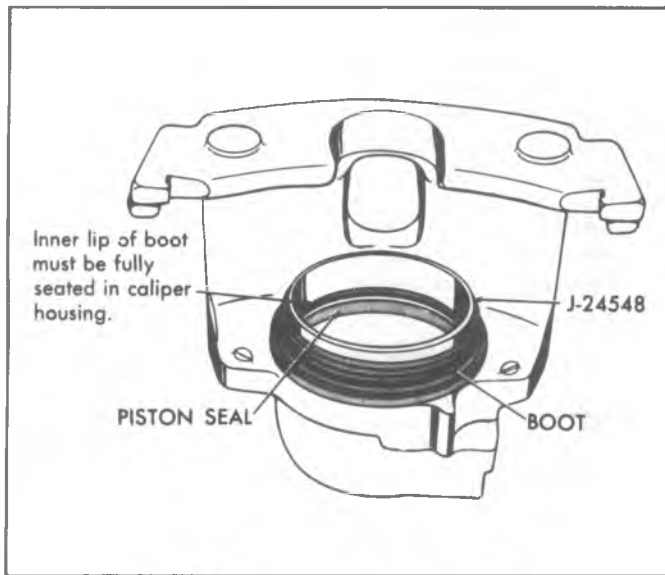

Fig. 5-41--Installing Caliper Piston Boot
2. Lubricate both sealing lips of the dust boot and the piston with a light film of clean brake fluid. Place the new boot over Piston Installer Tool J-24548. This is most easily accomplished by placing the boot large diameter over the tool first, then riding the smaller diameter onto the tool. The large diameter lip must then be slid off the tool to make ready for installation into the bore groove. Install the boot (large bead) into the piston bore groove by reaching inside of Tool J-24548 and pressing the boot bead into the groove (fig. 5-41).